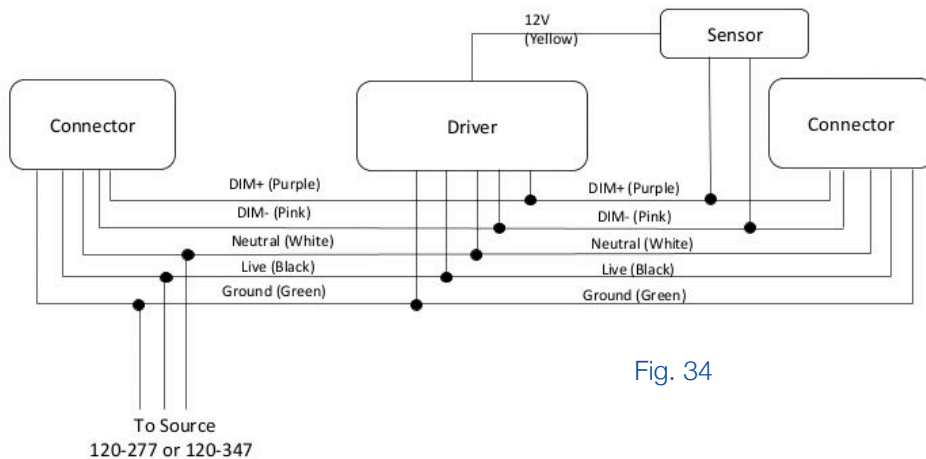

Fig. 34
4. Connect the wires with wiring nuts (Fig. 34). Please note that the wires in the luminaire is 18 AWG.